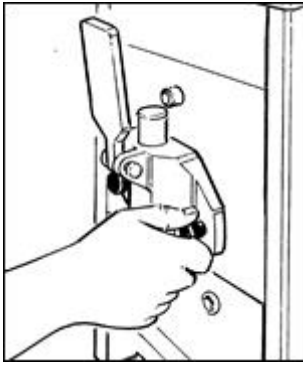
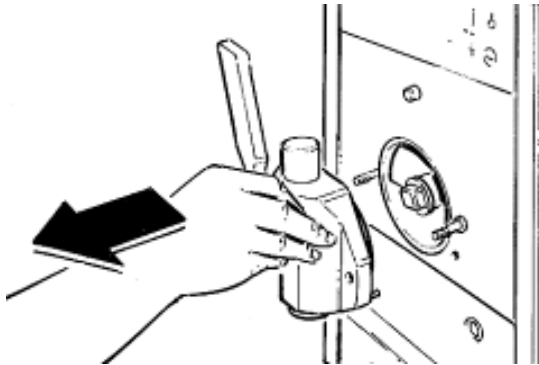

Fig. 38
Fig. 39
- Unscrew the security knobs and remove the front flange (Fig. 38 and Fig. 39).